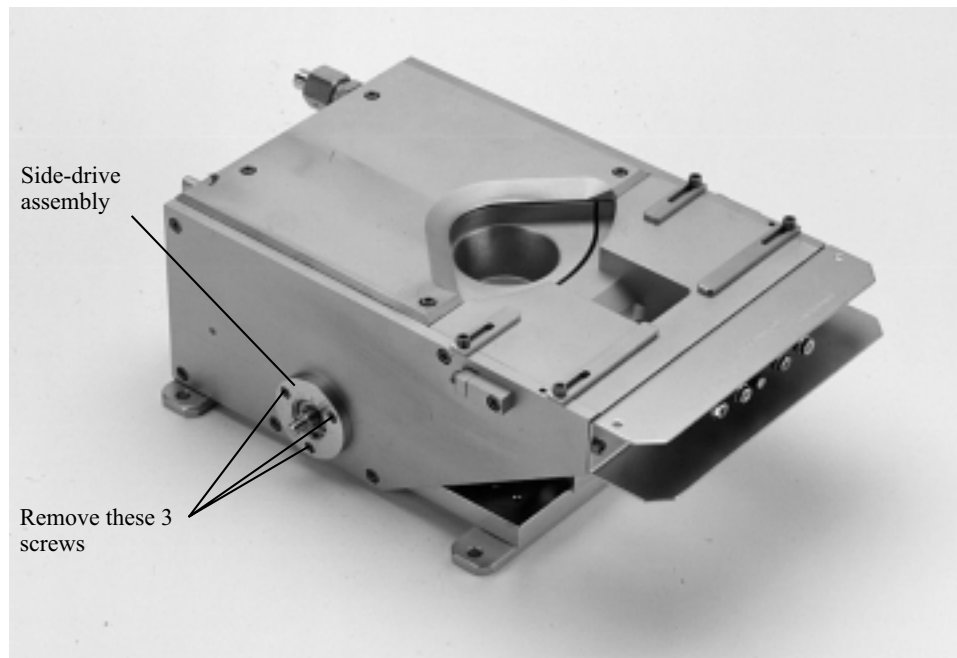

Figure 6-1. Removing the three screws securing the side-drive assembly
Step 1: If this is a side-drive gun, remove the three 6-32 3/8" screws that secure the side-drive assembly to the left- or right-hand pole piece, as the case may be (see Figure 6-1).